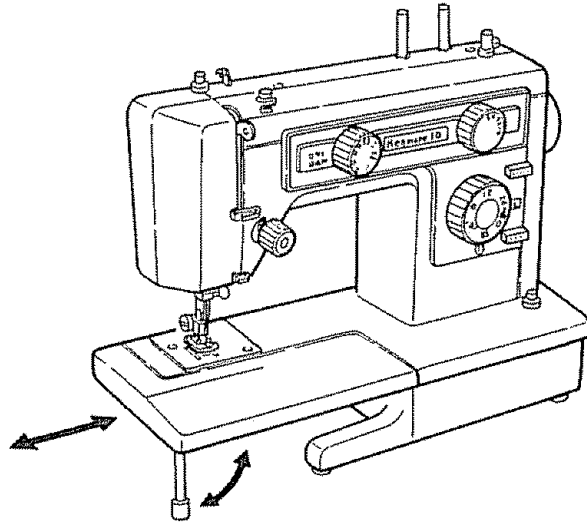

Fig. 1
1. Remove the extension table from the machine by folding the support leg up and pulling table to the left. (Fig. 1,2)
2. To replace the table, simply slide it along the free arm to its original position and place supporting leg in down position. (Fig. 1)